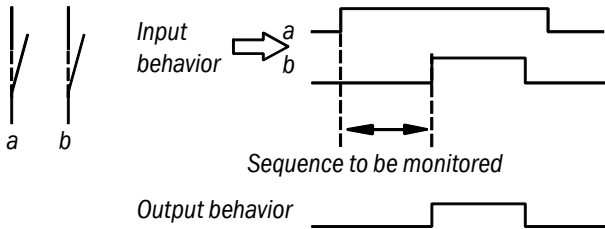

Figure 2: Switching behavior (unactivated)
- Both contacts must change output state, before it can be reset. Compliance with this sequence must be monitored by the safe evaluation unit (see figure 2).